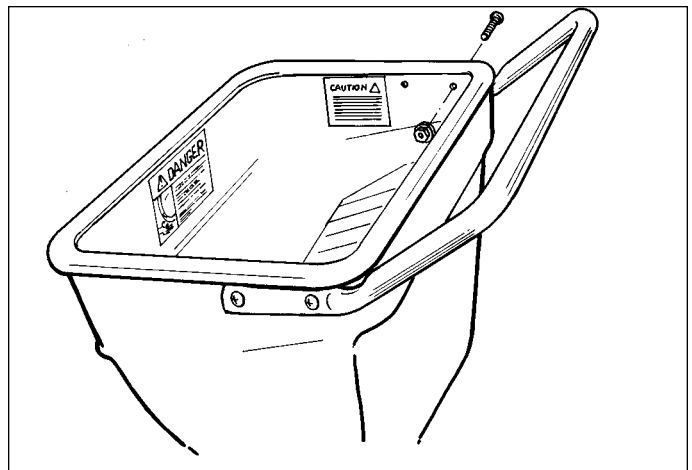

Figure 3. Installing the Hopper Handle
1. Lift the hopper handle up until the outer holes in the handle align with the holes in the shredder hopper. See Figure 3.